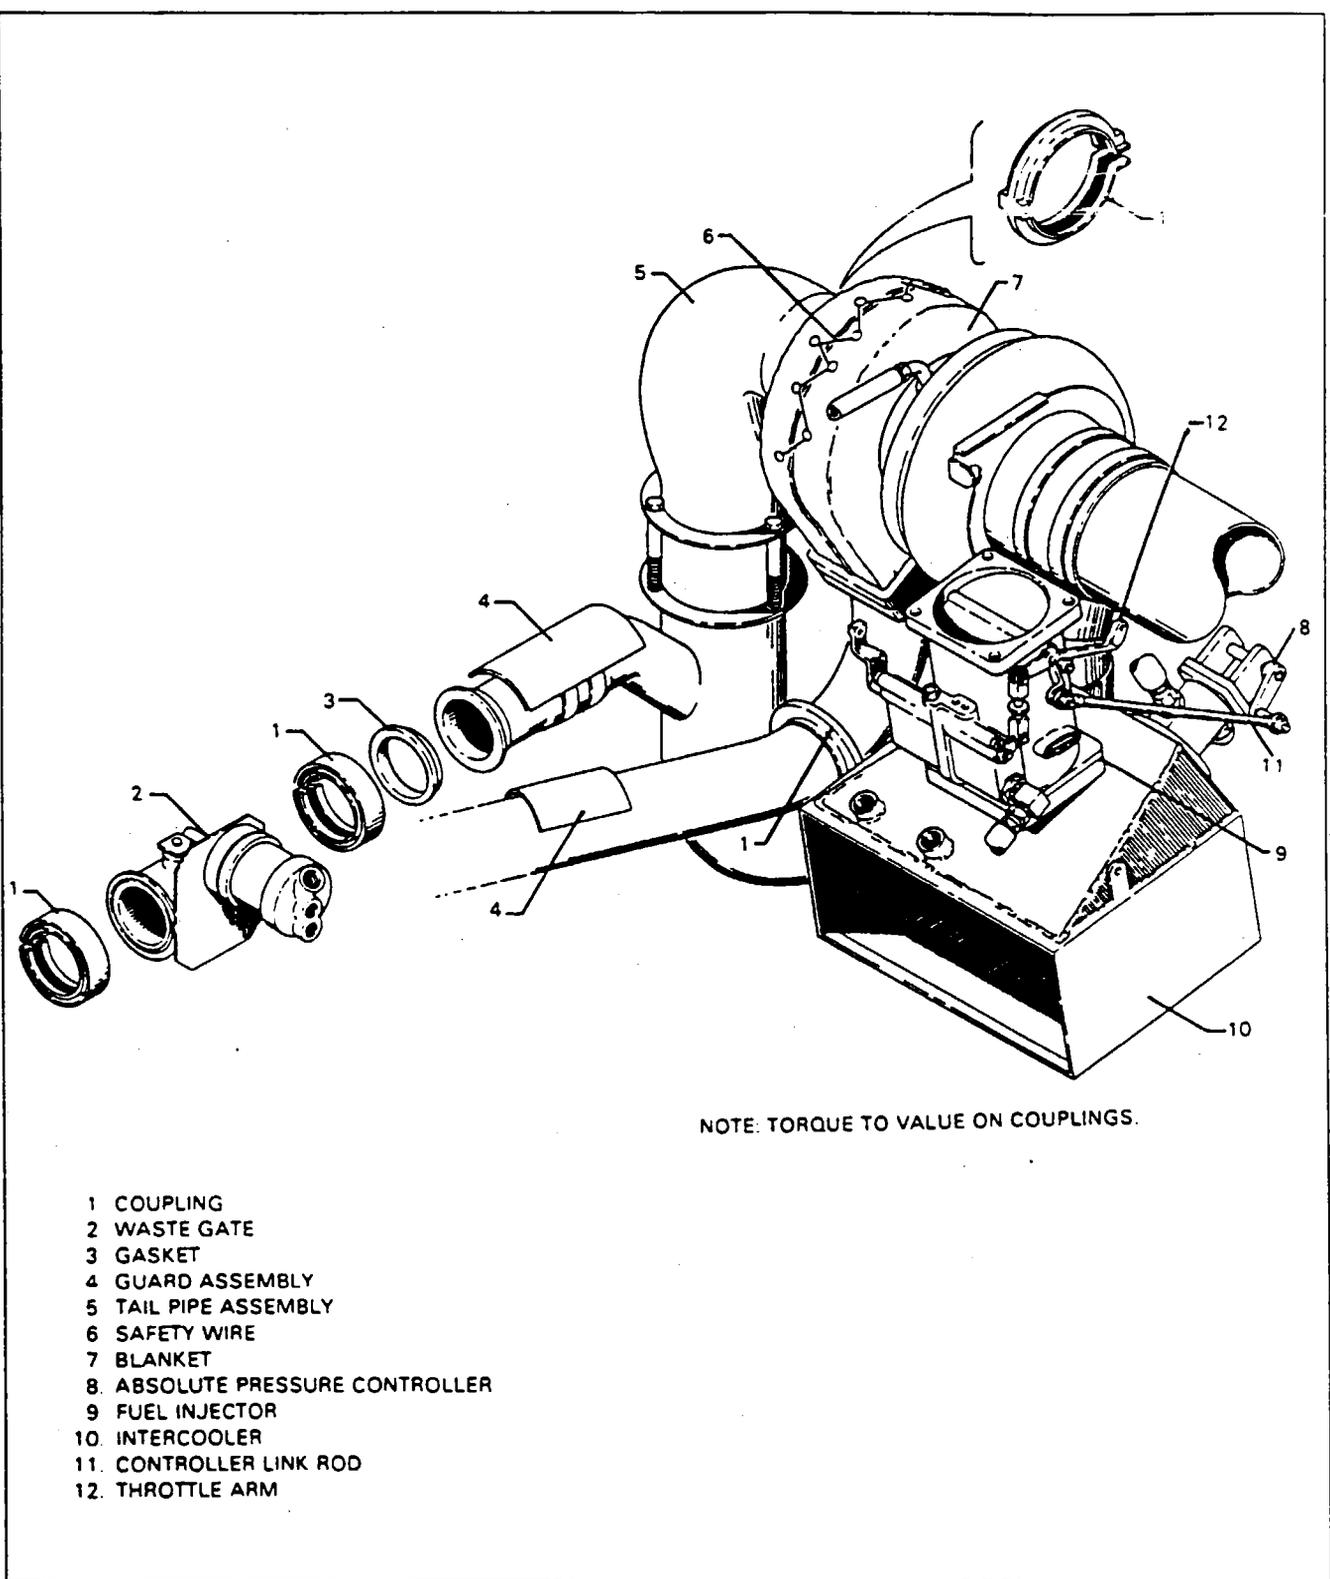

Figure 81-2. Turbocharger Installation
**RIGGING OF ABSOLUTE PRESSURE CONTROLLER. (Refer to Figure 81-2.)**